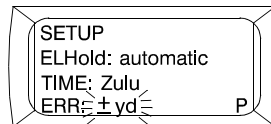

Figure 16. Yd Display
7. Press the up arrow key (figure 1, item 2) or down arrow key (figure 1, item 3) until ± yd is flashing for ERR (figure 16).